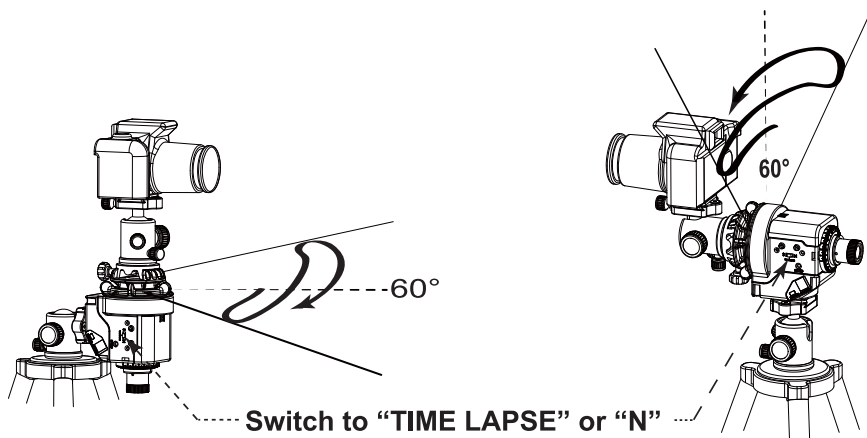
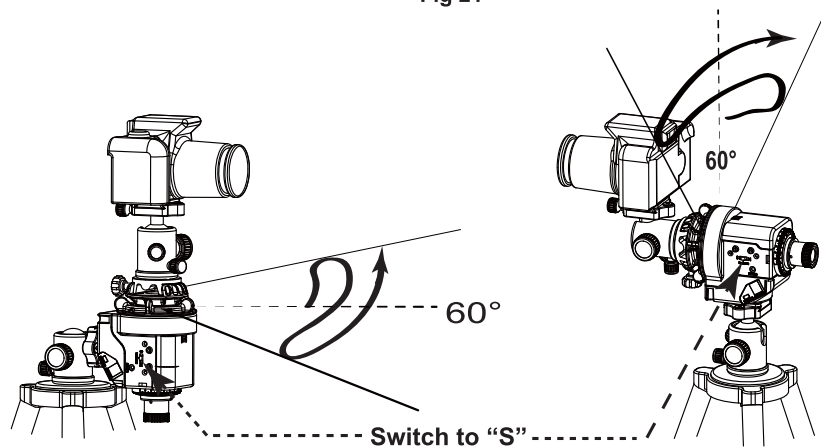

Fig 21
Fig 22
**Swinging Angle:** To avoid the shutter release cable to be twisted after a long period of use under the Astrophotography application, **Star Adventurer** will reverse after reaching 360° rotation. That is, for **Mode** ★ ☀ ☾ and **0.5X**, **Star Adventurer** will rotate within a 360° range. For the other modes, in order to provide more attractive scene while filming for time-lapse photography, under Time-Lapse application like Mode 2X, 6X and 12X, **Star Adventurer** will rotate within 60°(See Table 1). Every button pushed or mode changed will reset the start point of the swinging angle. For example, when the **Mode Dial** is at **6X** and **Slide Switch** is at **N** , the current position while we enter the mode will be the midpoint of the swinging angle. That is, it will rotate to the right first until it reaches 30°, then it will reverse until it reaches 60° (Fig 21), then swing within the 60°. If you push the buttons, the position at which you release the buttons will become the new midpoint of the 60° swing. If the switch is at **S**, it will rotate to the left first until it reaches 30°, then reverse the direction until it reach 60°(Fig 22).